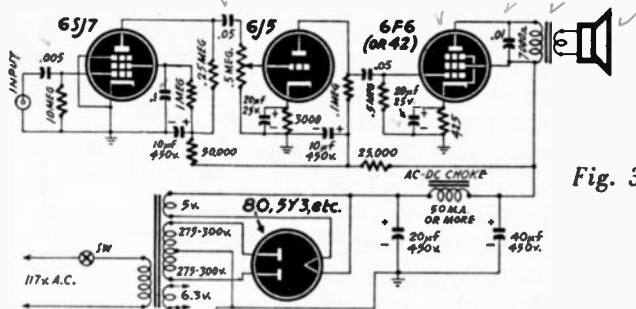

Fig. 309
A. The amplifier shown in Fig. 309 is suitable for a guitar. All parts and values are as marked and none other than the usual precautions should be necessary. The grid bias on the first tube is obtained by means of contact potential, and should be ample for your application.